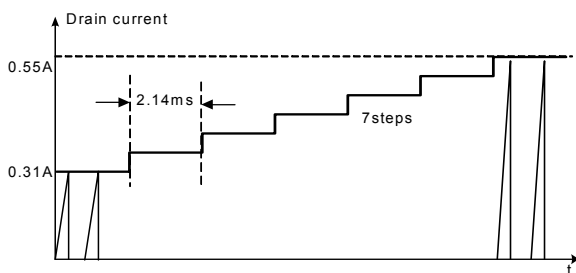

Figure 9. Internal Soft Start
5. Soft Start : The FPS has an internal soft start circuit that slowly increases the feedback voltage together with the Sense FET current after it starts up. The typical soft start time is 15msec, as shown in Figure 9, where progressive increments of the Sense FET current are allowed during the start-up phase. The pulse width to the power switching device is progressively increased to establish the correct working conditions for transformers, inductors, and capacitors. The voltage on the output capacitors is progressively increased with the intention of smoothly establishing the required output voltage. It also helps to prevent transformer saturation and reduce the stress on the secondary diode.